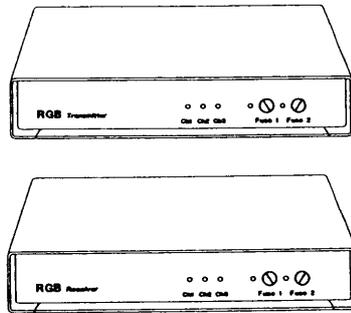

Figure 3: Transmitter/Receiver Standalone Units
- 1 to 3 channel standalone units (Fig. 3).